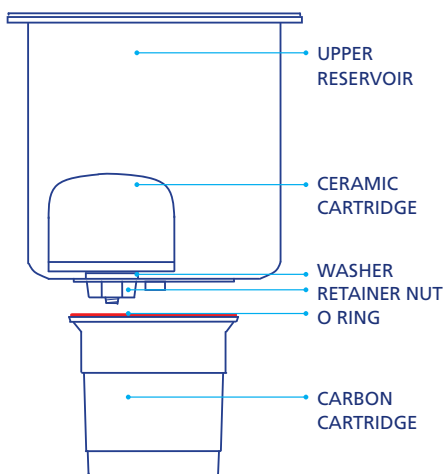

Figure 3.
- Remove the plastic retainer nut from the Ceramic Cartridge screw. Fit the Ceramic Cartridge inside the Upper Reservoir, inserting the screw into the hole in Upper Reservoir (see figure 3, opposite page).